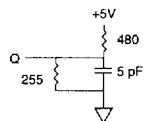

Fig. 2 OUTPUT LOAD EQUIVALENT
- ¹HZCE, ¹HZOE and ¹HZWE are specified with CL = 5pF as in Fig. 2. Transition is measured ±200mV from steady state voltage.